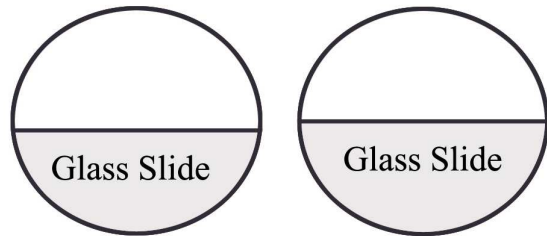
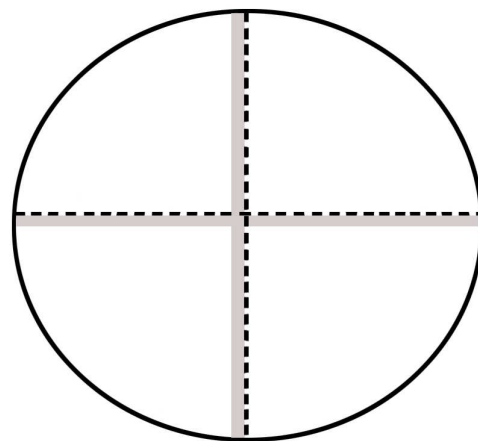

Figure 1.
Figure 3.
The three main errors of collimation are Dipvergence, Divergence, and Convergence. Figure 1 shows only dipvergence, (enforced Hyperphoria of one eye) as divergence and convergence are self-explanatory. These faults are undesirable deviations of the optical axes in a binocular microscope, which can occur if the microscope is subject to physical shock, user interference, or just plain old-fashioned wear and tear. Furthermore, such errors are relevant to microscopes with either convergent or parallel eyepiece tubes; fortunately, the image at the point of focus, as represented in Figure 3, is correct for both types when in collimation.
One common question I am often asked is “How can one tell if any collimation errors exist in a microscope?”... Well, one test experts recommended is to focus on the edge of a glass slide, then slowly withdraw one’s head from the microscope eyepieces until the single image separates into two. The line formed by the edge of the slide must continue to be straight through both eyepieces. Any errors such as dipvergence or prism rotation will appear as in Figures 1 and 2. Unfortunately, this test is of no value in detecting divergence or convergence. In addition, if any error exists in the vertical location of the testers eyes, (One or two millimetres is not uncommon), this will almost certainly void the check for dipvergence.
- Step 4.** Now with the mechanical stage adjust the position of the Centring slide cross-lines, until they appear to contact the eyepiece cross-lines as in Figure 3. Note, do not superimpose
**Step 7.** Now the right hand eyepiece tube, prism or mirror, after first slackening off the retaining screws, may be moved into collimation, constantly checking progress through the 10x eyepiece as the adjustment is made. When collimation is achieved the result should appear identical to Figure 3 in both eyepiece tubes.